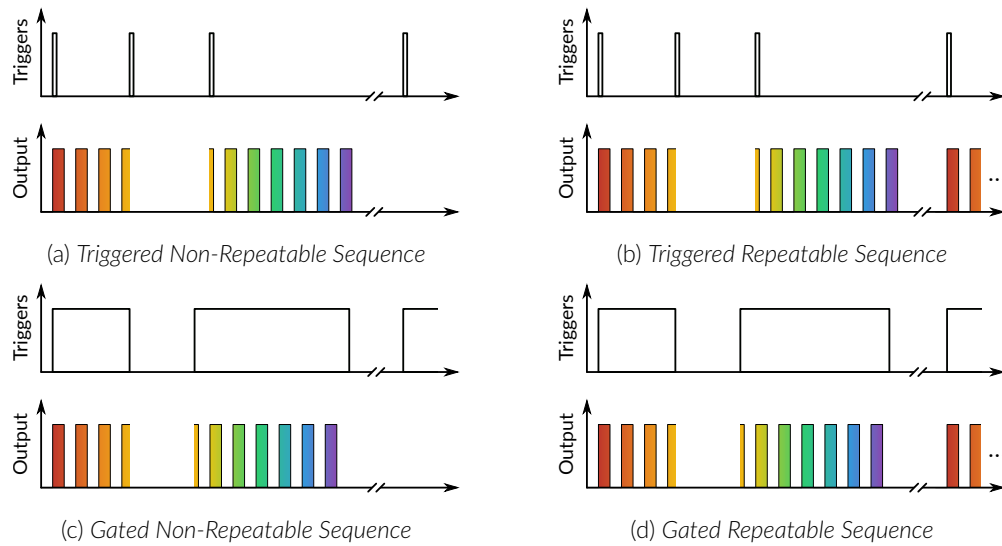

Figure 4.9: Pause Sequence Mode
- **Pause:** This mode activates the channel sequence when a rising edge greater than 3.3 V is detected on the BNC input (Fig. 4.9). Following input pulses (when *Triggered*, Fig. 4.9a) or falling edge (when *Gated*, Fig. 4.9c) will pause the sequence and the sequence will continue when the next rising edge is received. When the **Repeatable sequence** checkbox is checked, the sequence will restart with the arrival of the first input pulse after the sequence has finished (Figs. 4.9b and 4.9d).